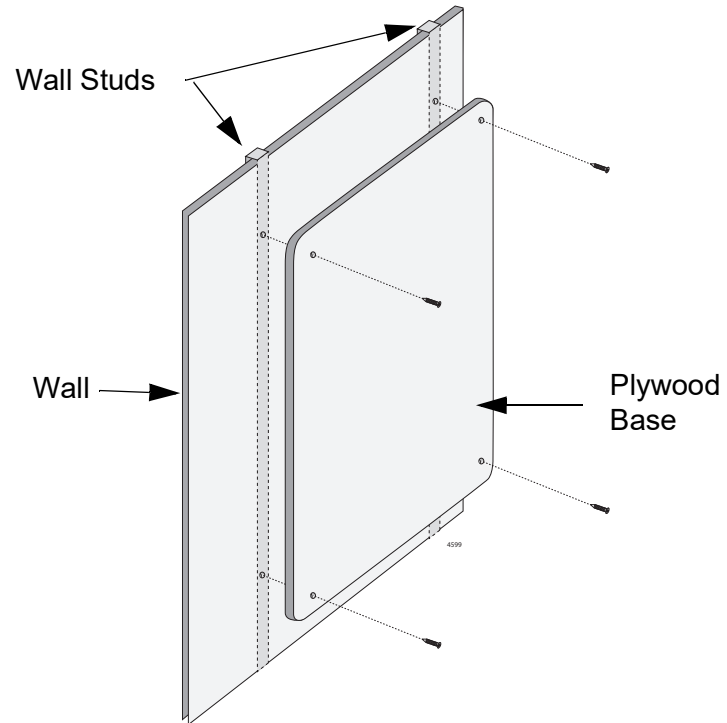

Figure 22. Installing the Plywood Base to the Wall
1. Install the plywood base on the wall and then install the switch on the base. Refer to Figure 22.